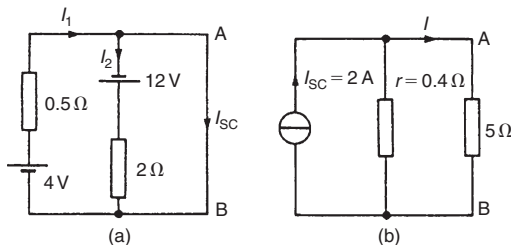

Figure 13.59
- (i) The  $5 \Omega$  branch is short-circuited as shown in Fig. 13.59(a)
- (ii) From Fig. 13.59(a),
- (iv) From the Norton equivalent network shown in Fig. 13.59(b) the current in the  $5 \Omega$  resistance is given by: